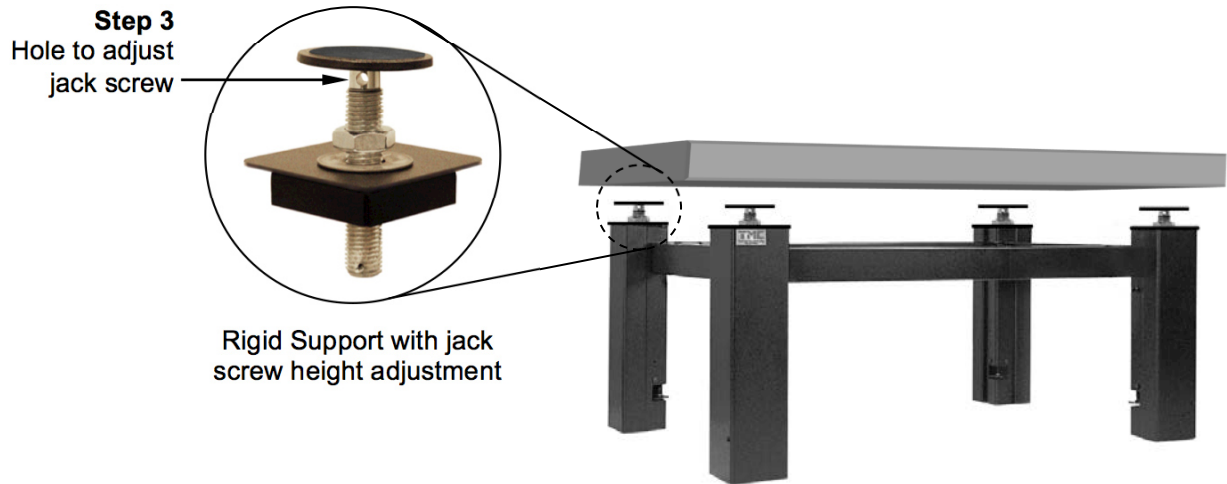

Figure 12, *Typical 4 post assembled frame*
Step 3 Adjust *rigid support* height by inserting a screwdriver or other type of bar into jack screw hole and rotate jack screw. Reference figure 12 above.